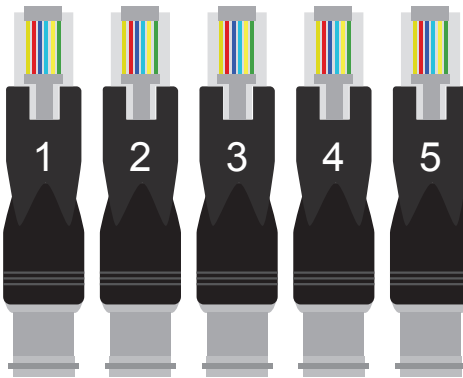

Figure 24 Cable ID Devices
1. Plug the Cable ID devices into the wall ports that need to be identified. Note that each device is numbered as shown in Figure 24.